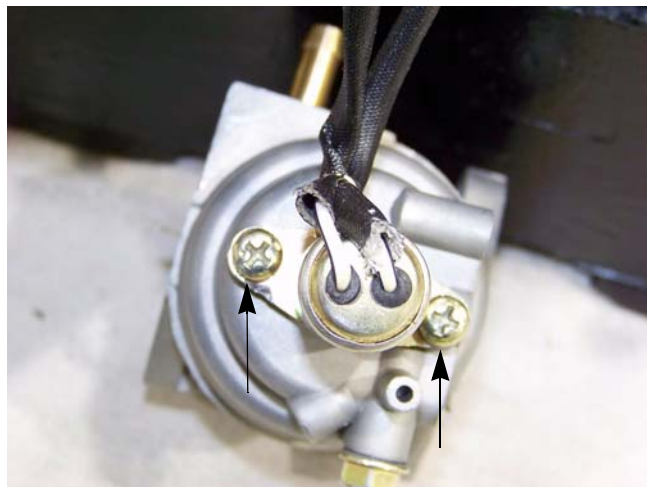

Figure 3.11
10. Remove the afterfire solenoid by removing the two screws (indicated by the arrows in Figure 3.11.).